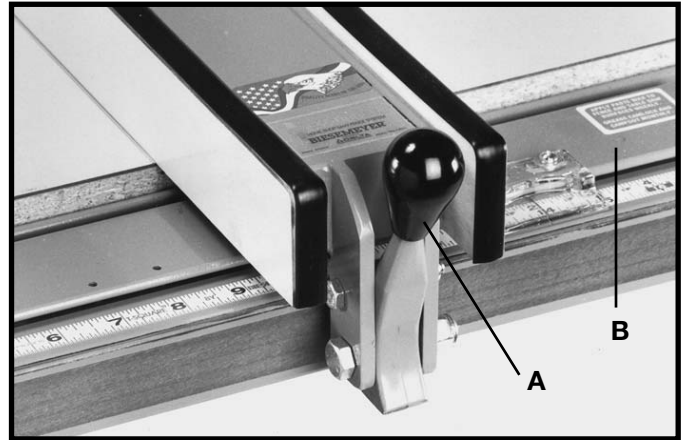
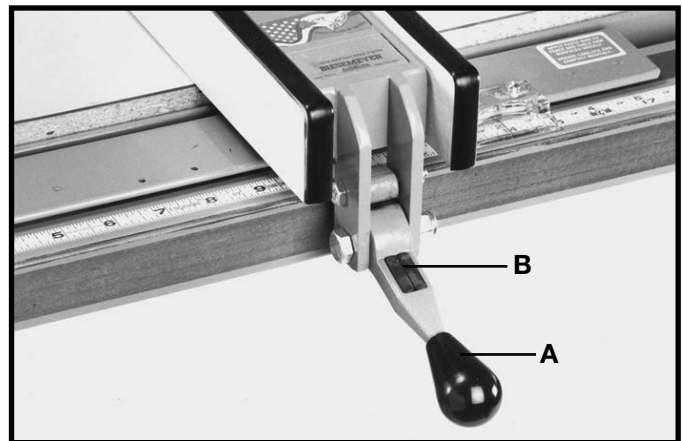

Fig. 50
Fig. 51
1. To place the fence on the guide rail, lift up clamp (A) Fig. 50, and place the fence over the rail and gently push fence onto rail (B) Fig. 50.
2. To move the fence along the guide rail, simply lift up clamp lever (A) as shown in Fig. 50, slide fence to desired position on rail, and push down on clamp lever (A) as shown in Fig. 51, to lock fence in position. NOTE: A magnet (B) Fig. 51, is provided to hold clamp handle (A) in the up position when moving the fence.